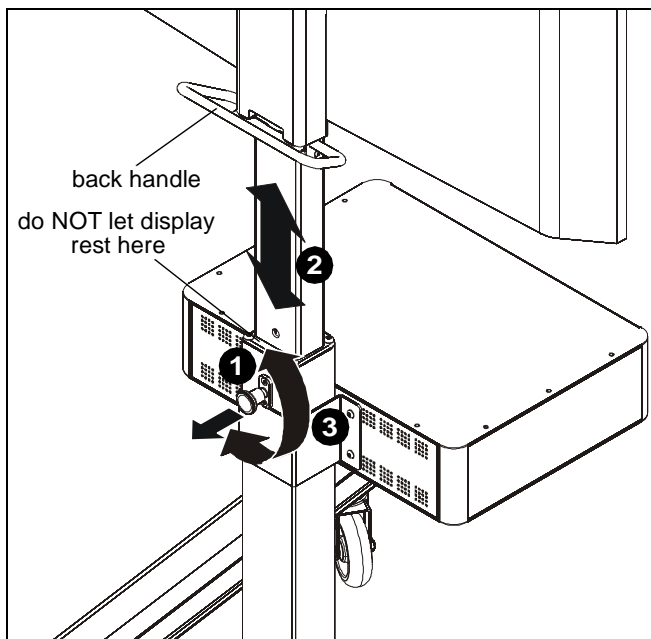

Figure 15
1. Pull out knob on the column assembly and turn 90° in either direction to disengage the locking mechanism. (See Figure 15)
2. Raise or lower the display using the back handle. (See Figure 15)
3. Turn the knob 90° either direction to engage the knob and lock the cart at desired height. (See Figure 15)
IMPORTANT ! : Set the height of the cart so the display does NOT rest on the lower part of the center post. (See Figure 15) Always set the height so the knob is engaged in a hole in the center post.